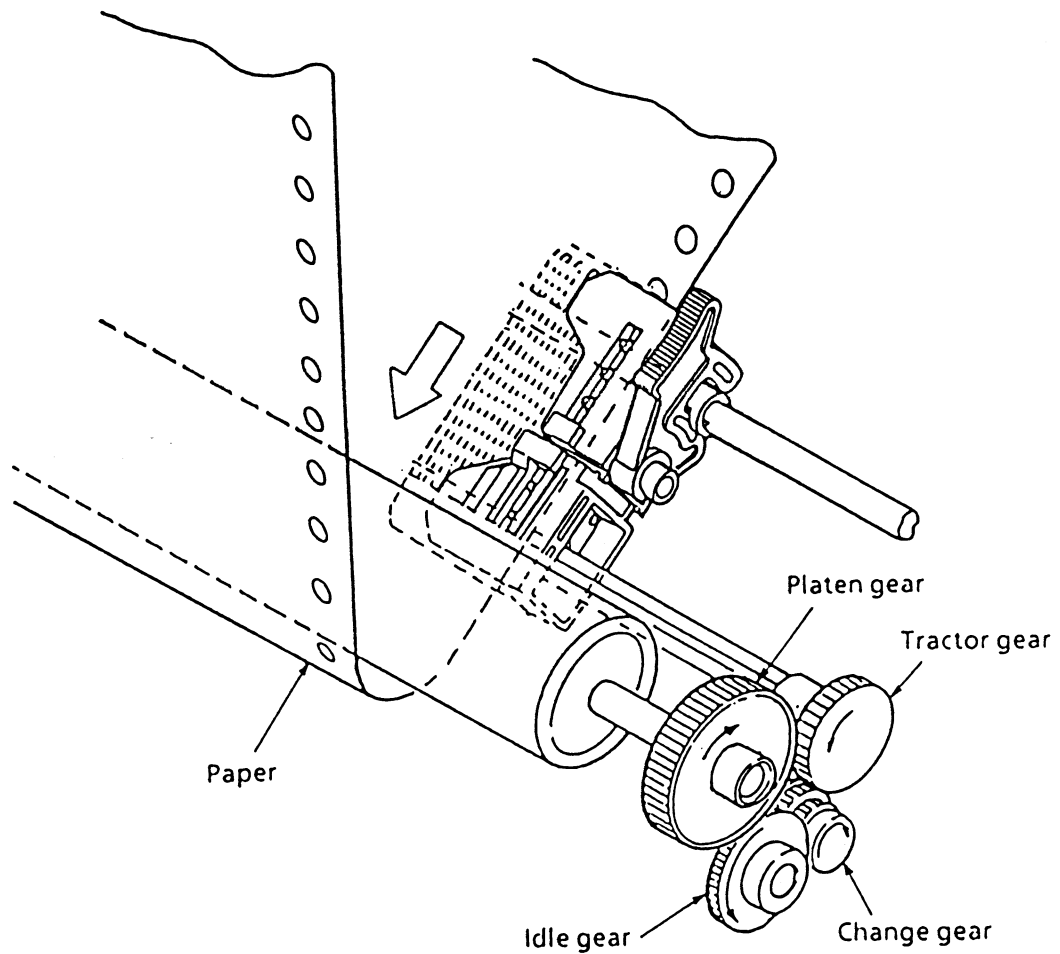

Figure 3-10
(3) Continuous paper feed operation (Rear) (See Figure 3-10)